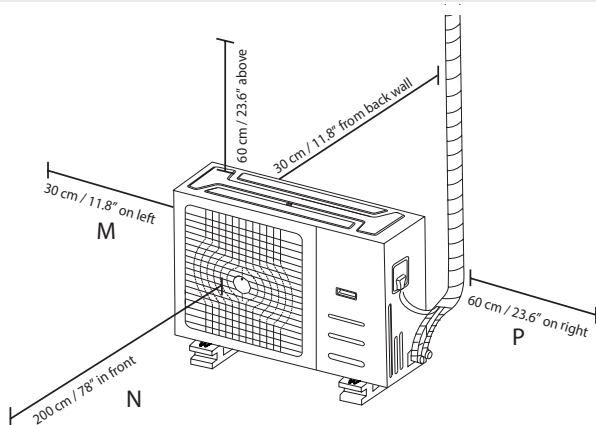

Fig. 5.10
**NOTE:** The minimum distance between the outdoor unit and walls described in the installation guide does not apply to airtight rooms. Be sure to keep the unit unobstructed in at least two of the three directions (M, N, P) (See Fig. 5.10)